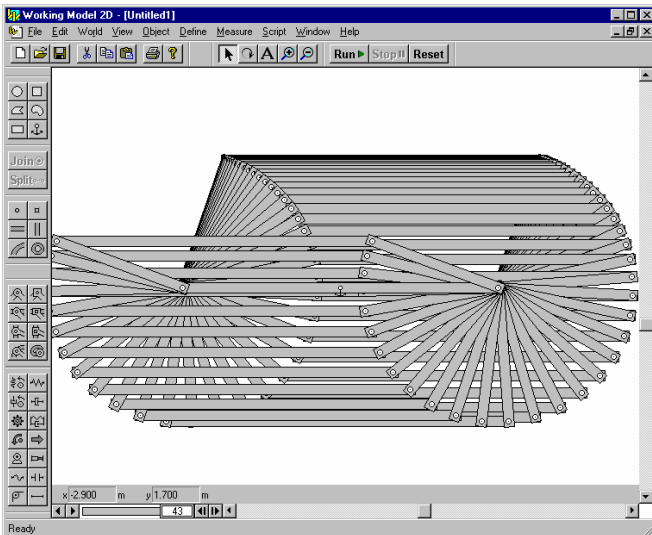

Figure 11. Building a fourbar linkage, Step 12, simulation.
12. Simulate the linkage again. Since the linkage is symmetric ( $s+l=p+q$ ), it is a "Special-case Grashof" linkage (Class III). You should see the double crank, Figure 11, and double rocker, Figure 11, motions intermittently, shown below left and right, correspondingly. Press the stop button after the simulation has run long enough to exhibit both types of motion (less than 20-30 seconds) and reset the initial condition by clicking the *Reset* button.